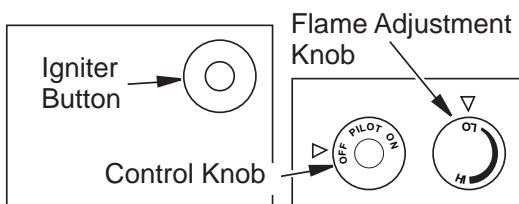

Figure 39 - Control Knob and Igniter Button Location
- 5. Wait five (5) minutes to clear out any gas. Then smell for gas, including near the floor. If you smell gas, STOP! Follow "B" in the safety information, column 1. If you don't smell gas, go to the next step.
- 6. Press in and turn control knob counter-clockwise  to the PILOT position. Press in control knob for five (5) seconds (see **Figure 39, Page 23**).